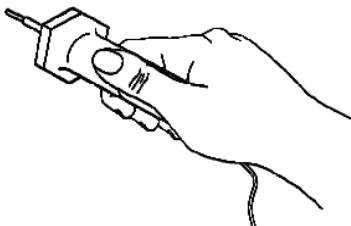

Figure 15 Inserting Wire into Removal Tool
- b. Place wire of contact to be removed into removal tool (Figure 15).